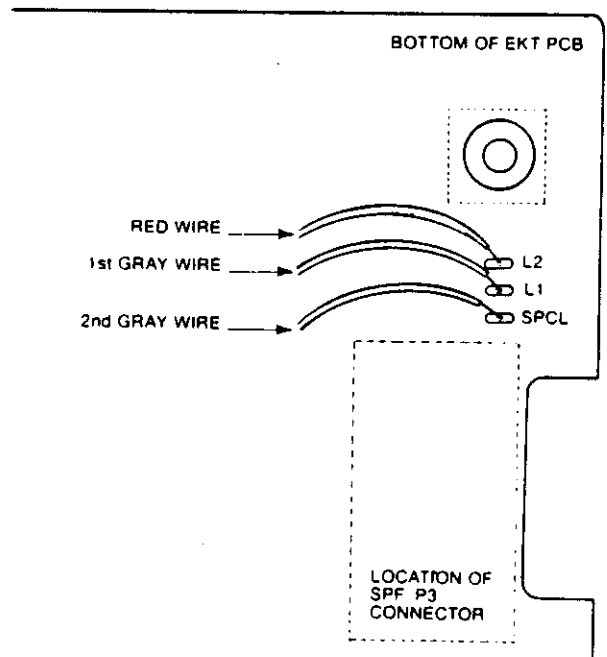

FIGURE 5C — VIEW OF UPPER LEFT CORNER OF EKT PCB (FROM BELOW) — WIRE SOLDERING POINTS
2.4.3 Strip 1/4 inch of insulation from the ends of the cut red and two gray wires. Twist the ends of each wire to form a point. With the EKT PCB face down on a protected surface, apply the heated tip of a soldering iron to the L2 soldering position. See **Figure 5C**. When the solder is liquified, insert the end of the cut red wire into the drilled hole in the L2 position. Repeat this procedure with the 1st gray wire for